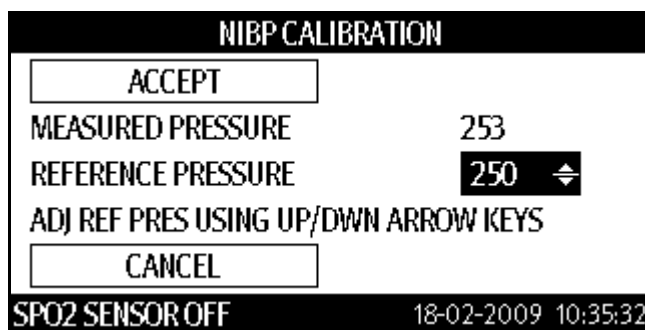

FIGURE 6-6 NIBP CALIBRATION dialog with the reference pressure field highlighted
NOTE: After the calibration vessel is pressurized, the reference pressure field is highlighted, as shown in FIGURE 6-6.
24. Press the  (16) or  (19) to adjust the reference pressure value in 1 mm increments until it matches the **MEASURED PRESSURE** value.
25. Press  (18) to set the reference pressure value. After the reference pressure value is set, **ACCEPT** is highlighted, as shown in FIGURE 6-6.